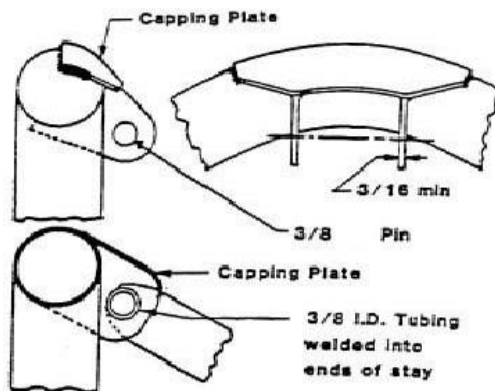
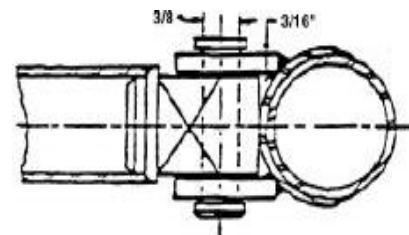

Figure 2
Figure 3
-Roll hoop bracing may be removable. Any non-permanent joint shall be of the double-lug design as shown in figures 2 and 3. Each lug shall be at least 4.5 mm (0.177 in) thick steel, measure 25 mm (1.0 in) minimum perpendicular to the axis of the bracing, and be as short as practical along the axis of the bracing. All joints must include a capping arrangement (figure 2) and/or a doubler (figure 3), fabricated of at least 1.65 mm (.065 inch) steel. If a doubler is used, it must extend at least 120 degrees around the frame member. The pin or bolt shall be 10 mm Grade 9.8 or 3/8in Grade 8 minimum. The attachment holes in the lugs and in the attached bracing shall be a close fit with the pin or bolt. NO SPHERICAL ROD ENDS are allowed.
REMOVABLE ROLL BAR BRACES ATTACHMENT DETAILS (FIGURES 2 & 3)